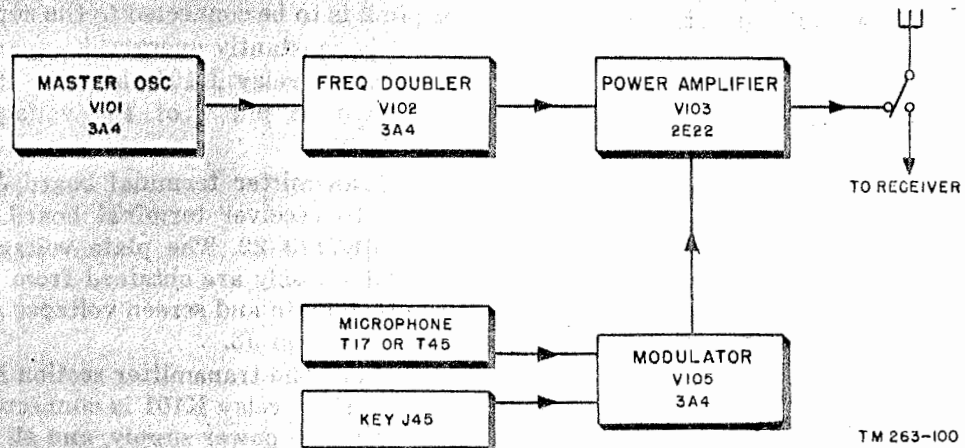

Figure 66. Block diagram of transmitter section of receiver-transmitter RT-77/GRC-9.
91. Block Diagram (fig. 66)
a. GENERAL. The transmitter section of Receiver-Transmitter RT-77/GRC-9 consists of a master oscillator, frequency doubler, power amplifier, and modulator circuit as shown in the block diagram (fig. 66). The circuit is designed to provide c-w, mcw, and voice modulated signals over a frequency range of 2.0 to 12.0 mc. As in the case of the receiver, the frequency range is covered in three bands, 2.0 to 3.6 mc, 3.6 to 6.6 mc, and 6.6 to 12.0 mc.
b. BLOCK DIAGRAM (fig. 66). The block diagram shows a master oscillator, which can be either self-excited or crystal-controlled, to supply an r-f signal voltage to the grid of the doubler stage whose plate circuit is tuned to the second harmonic of the input signal. The output of this stage is fed to the grid of the power amplifier stage at a sufficient power level to drive the power amplifier as a Class C amplifier. The modulator circuit supplies the audio power necessary to *suppress grid modulate* the power amplifier during phone and mcw operation. The output of the power amplifier is then coupled